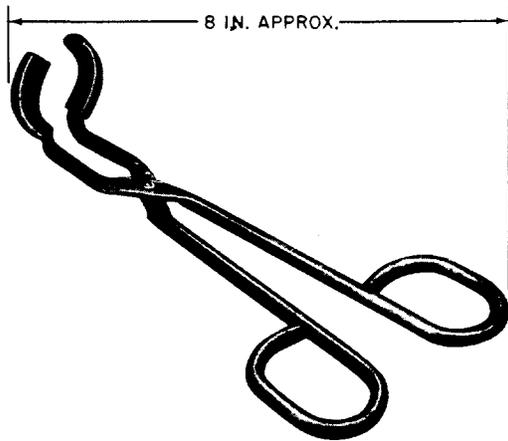

Fig. 7—KS-14428 Tube Extractor
2.08 **KS-14428:** The KS-14428 tube extractor (Fig. 7) is used to extract 375A and similar-type octal base electron tubes and for replacing 89-type resistors.